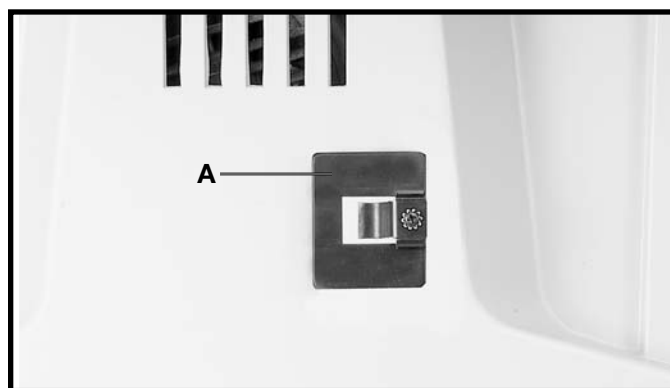
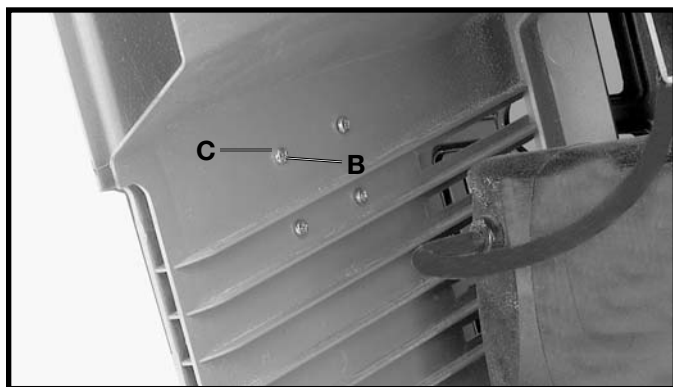

Fig. 14
Fig. 15
3. Assemble the miter gage holder (A) Fig. 14, to the left side of the saw cabinet using the four screws (B) Fig. 15, and washers (C) from inside saw cabinet.